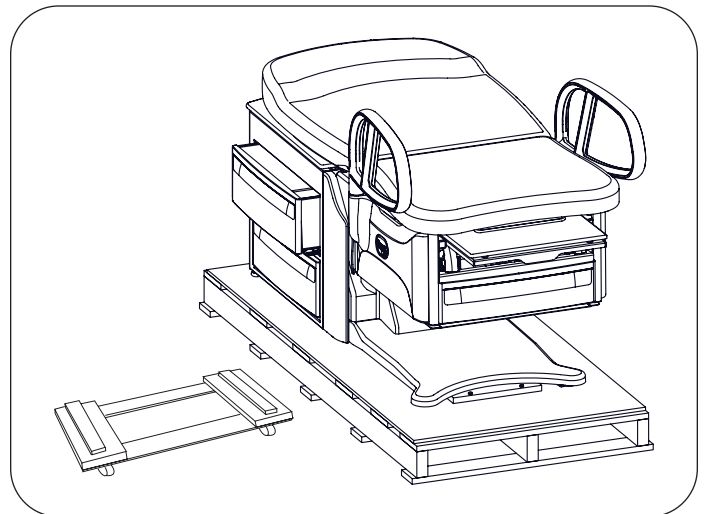

Figure 17. Furniture Dolly Ready for Table
18. Position furniture dolly close and perpendicular to pallet for transfer of table (Figure 17).